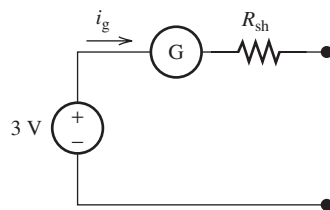

FIGURE P14.12
- 14.12** (A) Figure P14.12 shows a simple ohmmeter, made using a galvanometer. If $i_{gmax} = 2 \text{ mA}$ and $R_G = 1 \text{ k}\Omega$, find the value of the shunt resistor. (Hint: the maximum current occurs when the measured resistance is 0Ω .)